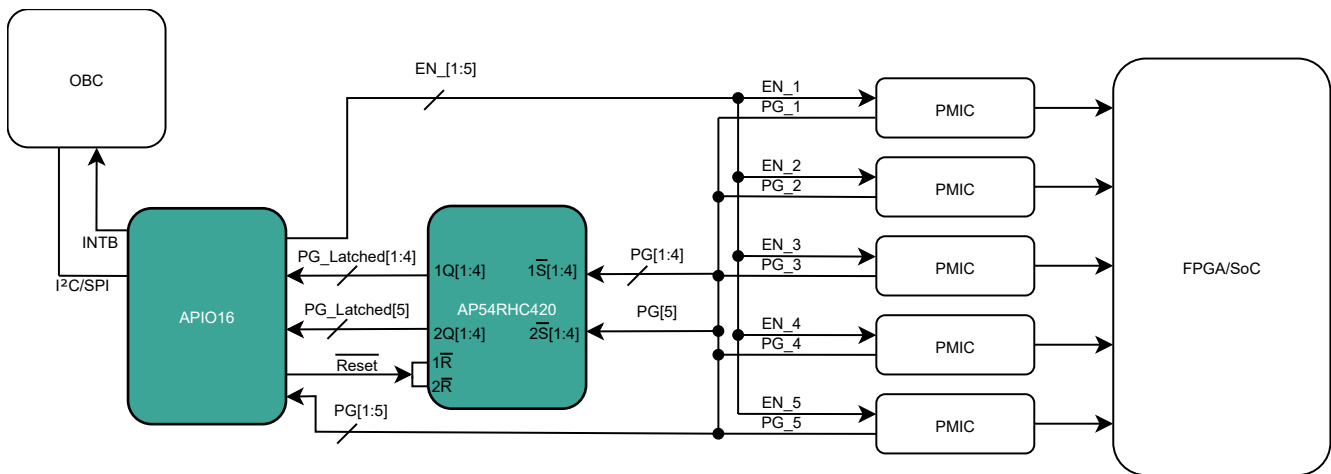
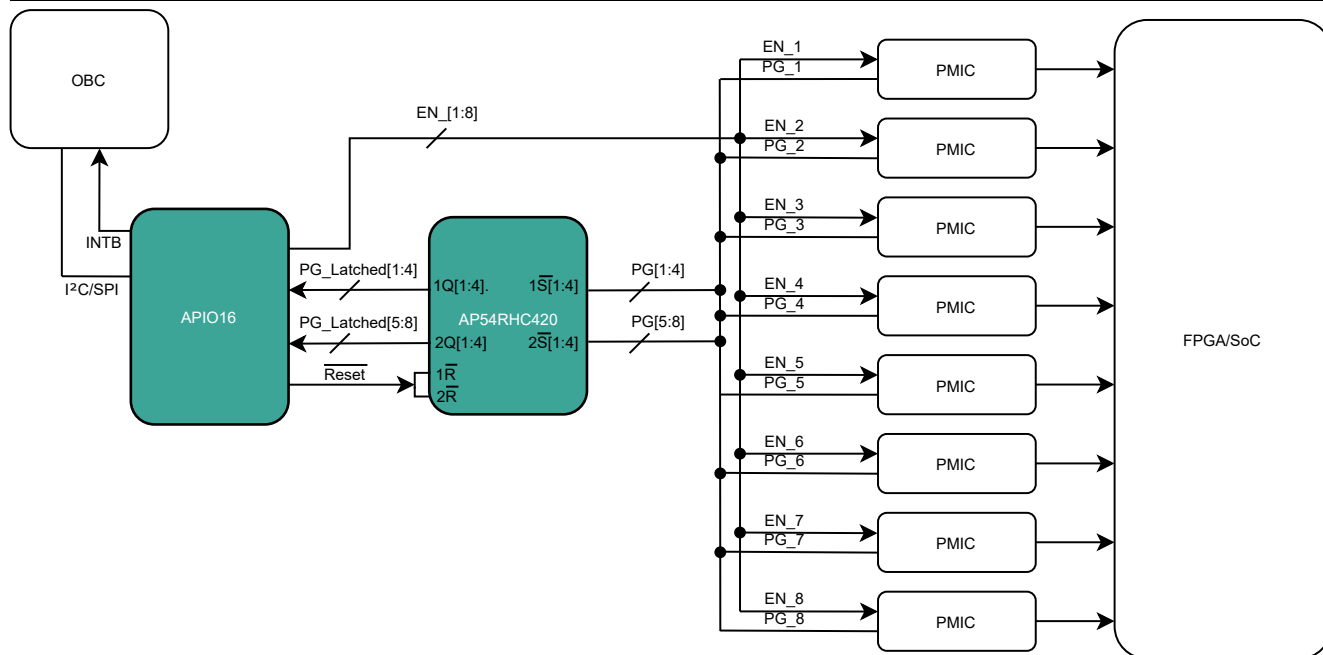

Figure 12: Latched and Unlatched PMIC Fault Detection
Figure 13: Latched PMIC Fault Detection
Figure 12 shows the AP54RHC420 used to latch the power good (PG) signals from five separate PMICs. As with the application described above, the device can capture any low transients on the PG signals so that transient faults are not missed. The diagram illustrates the AP54RHC420 interfacing with an APIO16 I/O expander, which enables the controller (OBC in the diagram) to detect faults on multiple PMICs without consuming many I/Os. The change of state of the APIO16 can trigger an interrupt to the OBC to initiate reading the APIO16.
Also shown in Figure 12 is the PG signals from the PMICs connected directly to the APIO16 through the bottom-most trace. This enables the APIO16 to monitor both the latched signals and the current value of the PG signals, so that it can diagnose both a fault and the current state of the PMICs. In the event this level of monitoring is not needed a single AP54RHC420 can be used to latch the PG signals of up to eight PMICs as shown in Figure 13.